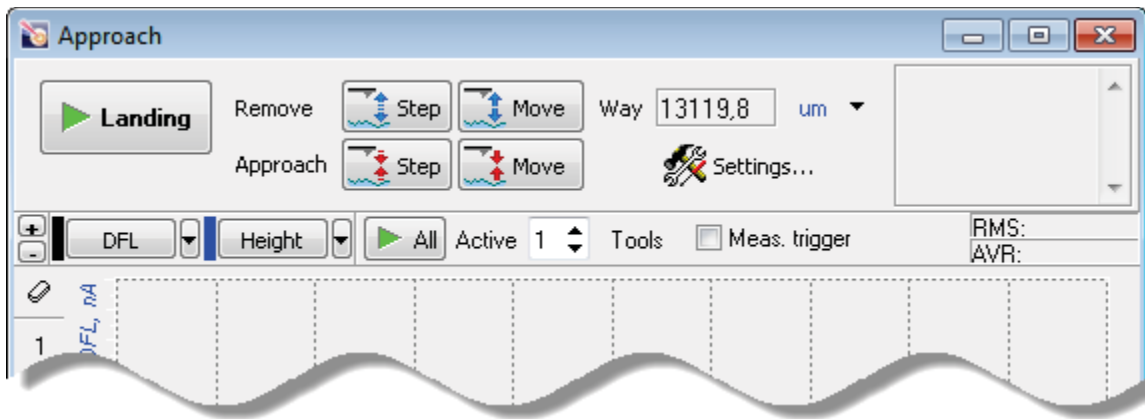

Fig. 7-26. **Approach** window
2. Open the **Approach** window by clicking the  button. To prevent damage of the probe tip by the sample surface when removing the measuring head, retract the sample from the probe by clicking the  button for several times (Fig. 7-26).